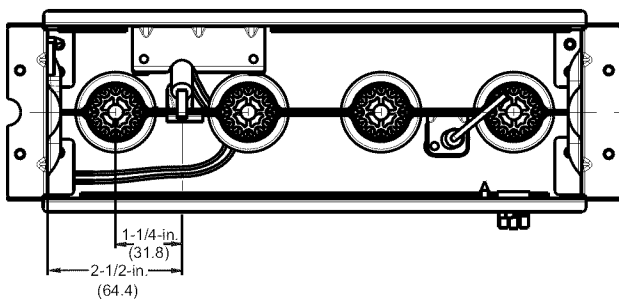

Fig. 8 - Igniter Position - Back View
4. Verify igniter to burner alignment. See Fig. 8 & 9.